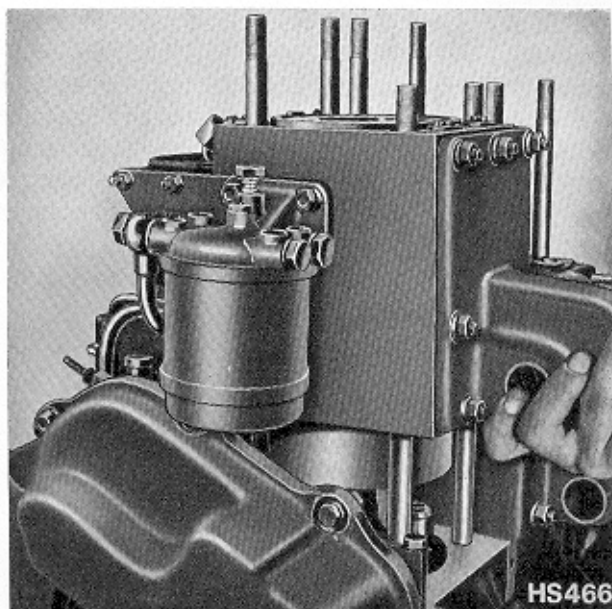

Fig. 95 Removing a Block
- (g) Mark position of block for refitting and remove piston, connecting rod and block as a complete unit. (Fig. 95.)